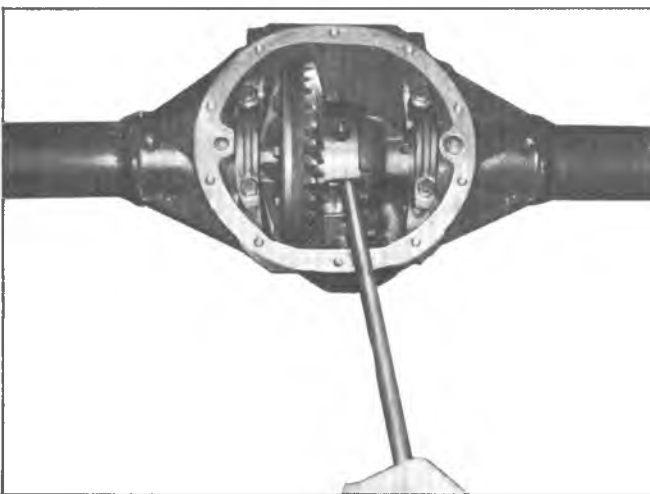

Fig. 2A Differential Case Removal
5. Using a pry bar as shown in figure 2A, pry differential case out of carrier. Exercise caution in prying on carrier so that gasket sealing surface is not damaged. If the bearings are preloaded, the case will suddenly fall free when it is pried past a certain point; therefore, make sure case is properly supported to prevent damage. The bearing cups may be loosely installed, as shown in figure 2A, to prevent case from falling.